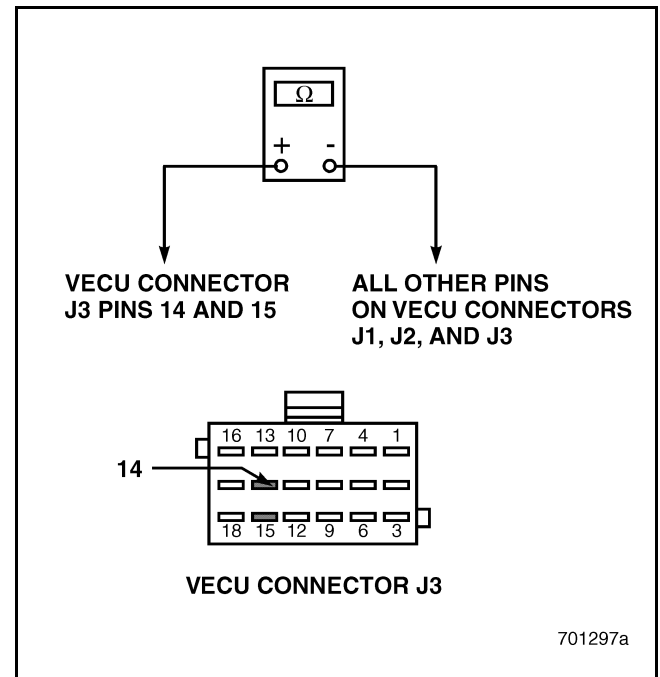

Figure 624
5. Check for continuity between VECU connector J3 pins 14 and 15 versus all other pins on VECU connectors J1, J2 and J3 (see Figure 624).